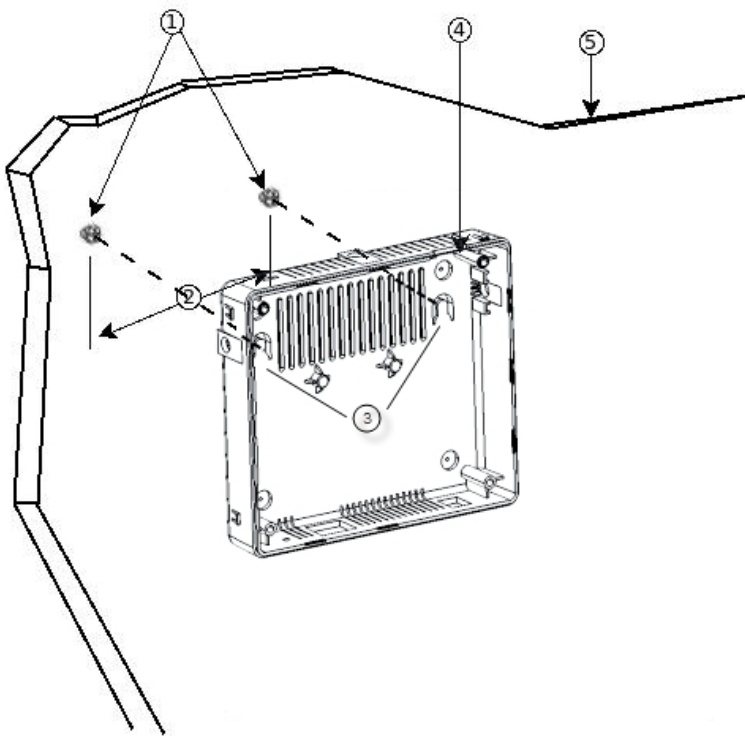

Fig. 8: **Wall-mounting features**
Step 2 Hang the router on the screws. This is the appropriate position for safe use. (See Fig. 8 on page 9)